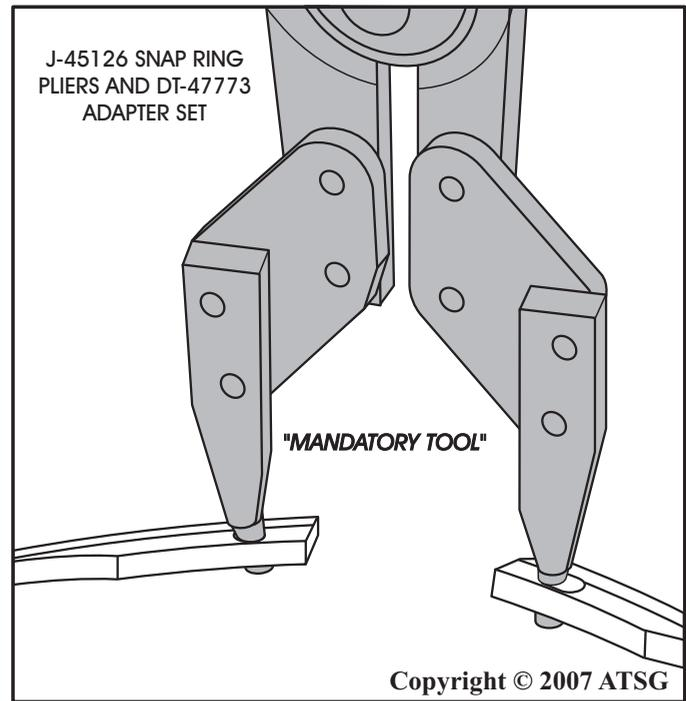
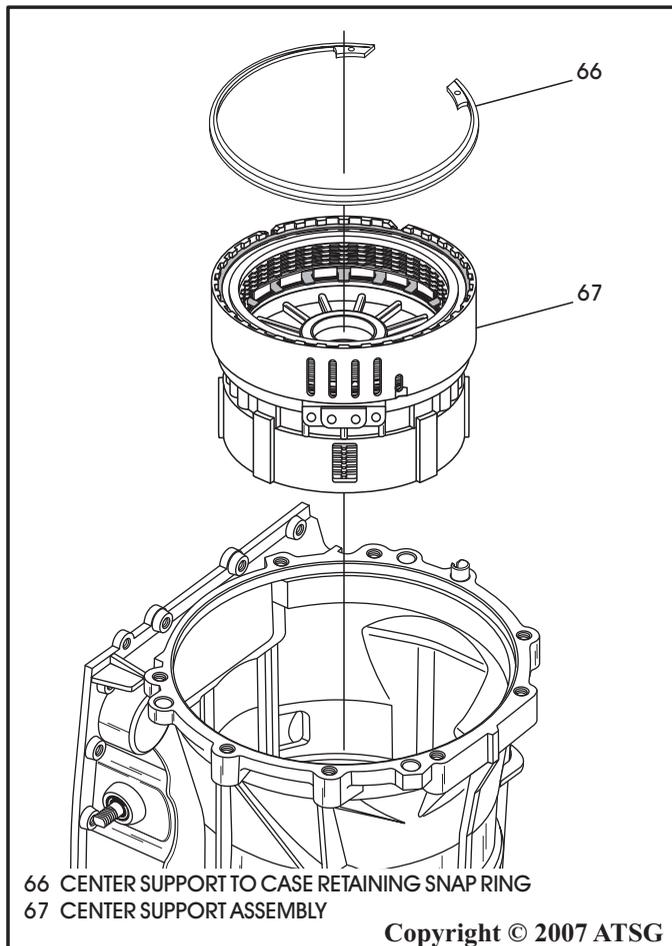

Figure 156
Figure 155
6. Install the pre-assembled center support assembly, as shown in Figure 155.
8. Install center support retaining ring with the tapered side facing up, as shown in Figure 155, and snap ring opening at the 9 o'clock position, using the J-45126 snap ring pliers along with DT-47773 adapter set, shown in Figure 156.